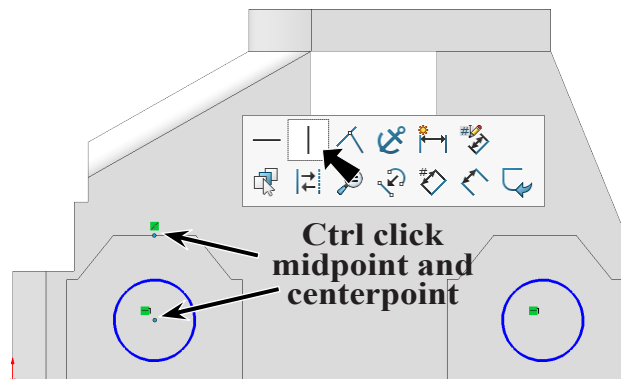

**Fig. 55**
Step 6. **Drag selection to** **Fig. 54** **select both circles** and click **Make Equal**  on the context toolbar, **Fig. 55**.